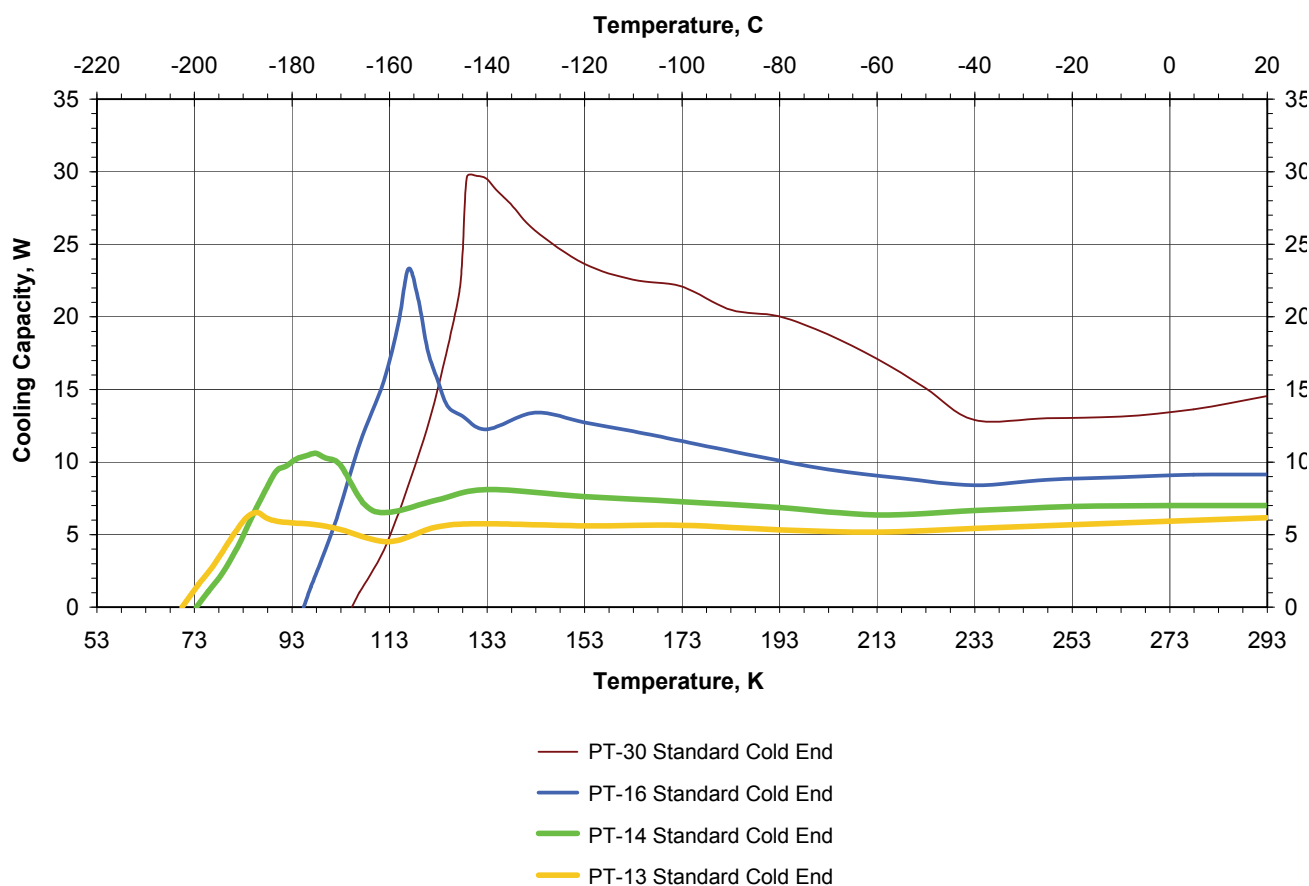

Figure 6-1: Typical Cooling Capacity Map
5. Do not exceed the heat capacity of the cryocooler. Application of heat, which exceeds the stated capacity, will cause the liquid refrigerant at the cold tip to evaporate, resulting in overheating and possible damage to the equipment. See Figure 6-1, Typical Cooling Capacity Map.